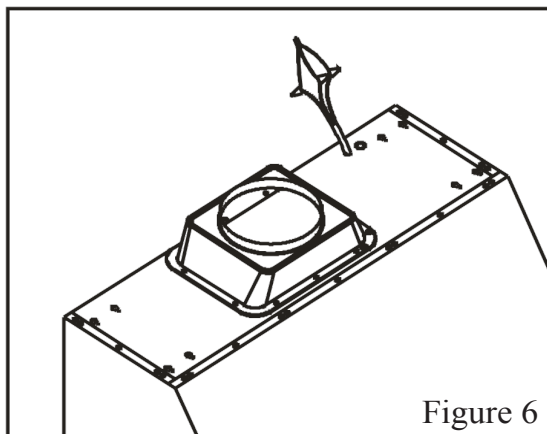

Figure 6
7. Connect the range hood to a designated standard outlet or cut off the plug and connect three wires (black, white and green) to house wires and cap with wire connectors. Connect according to colors (i.e. black to black, white to white, and green to green) as shown in Figure 6.